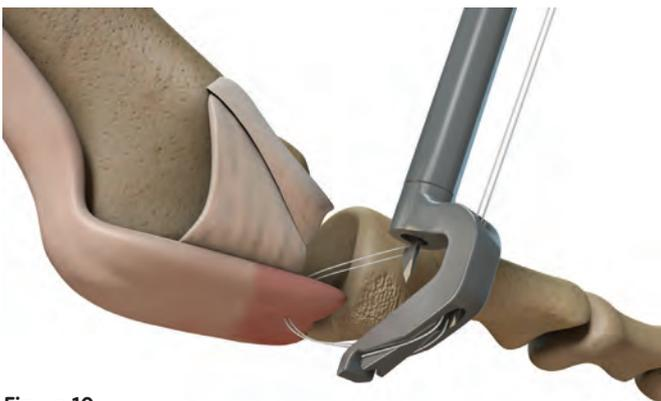

Figure 10
9. Slightly depress the needle to release the suture loop from the needle tip (Figure 10). Grasp the loop of the suture. Remove the suture passer/needle assembly from the joint space.